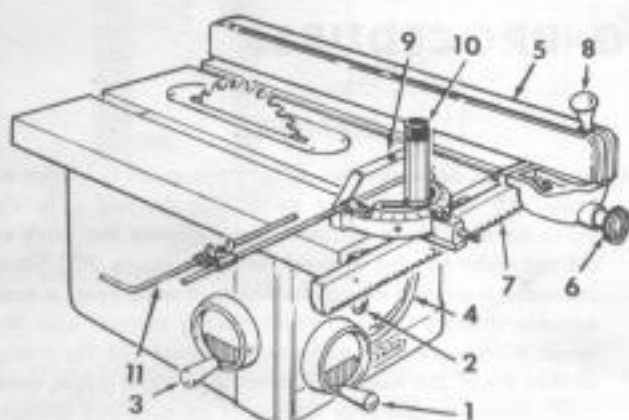

Figure 14
Before operating the saw, the operator should examine all controls until thoroughly familiar with their functions, as well as making sure that controls are operating properly. (See figure 14.)
- 1. Elevation Hand Wheel (1, figure 14).** Located on the front of the saw to control elevation of the saw blade.
- 2. Clamp Screw Handle (2).** Located on front of saw to lock the tilt mechanism in any desired position. The clamp screw handle operates like a socket wrench. Tilt mechanism should always be locked before starting work and should always be unlocked before attempting to change the angle of tilt.
- 3. Tilt Hand Wheel (3).** Located on left-hand side of saw to control the angle of tilt. The saw blade can be tilted from 0 to 45 degrees, as indicated on the TILT GAUGE (4). If the angle of cut (tilt) must be extremely accurate, the angle of the saw blade should be checked with a protractor, or with a board known to be cut at the exact angle required.
- 4. Rip Fence (5).** The fence is operated by pushing in the FENCE KNOB (6) so that it engages a pinion gear with the teeth on RACK (7). Turning the knob (6), after pushing it in, will cause the rip fence to move accurately across the table. When the knob (6) is pulled out to disengage the pinion gear, the rip fence can be moved across the table by hand. Keep the saw table and rip fence clean, as dirt may prevent the rip fence from assuming proper alignment when tightened. Tapping the fence lightly to assist the mechanism to find its natural position will help to maintain alignment of the fence with the saw blade.
- 5. Cam Clamp Lever (8).** This lever is used to clamp the rip fence in place after it has been moved to the desired position.
- 6. Miter Gauge (9).** This gauge is used in table grooves as a guide for the work-piece when the rip fence is not used. The angle of the gauge can be adjusted by loosening CLAMP HANDLE (10) and positioning the gauge as indicated by the dial and pointer on the gauge (9).
- 7. Miter Gauge Stop Rod (11).** This rod is used as a positioning guide for the end of the workpiece. (May be